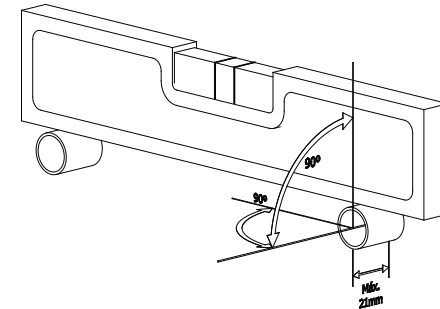

Fig. 2
- Make sure the tubes are perpendicular to the wall, have a maximum length of 21mm, leveled and 150mm apart as shown in fig. 2;